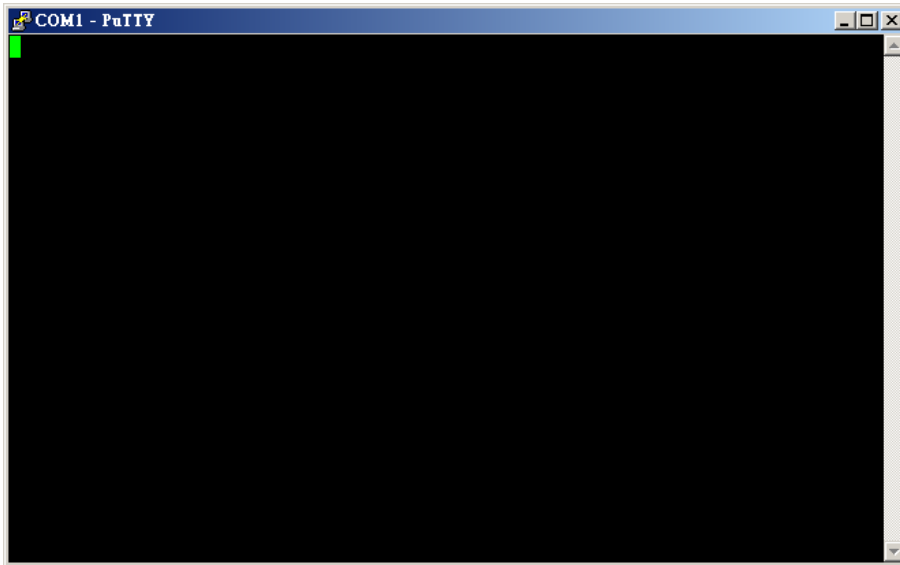

Figure 19: PuTTY terminal window
- Press open and a window will pop up (see Figure 19)